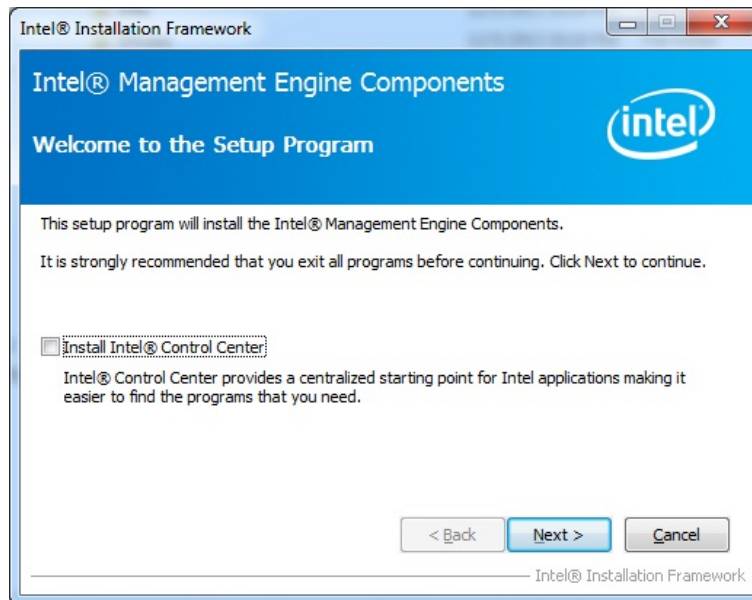

Figure 6-27: Intel® ME Driver Welcome Screen
Step 4: When the setup files are completely extracted the **Welcome Screen** in **Figure 6-27** appears.